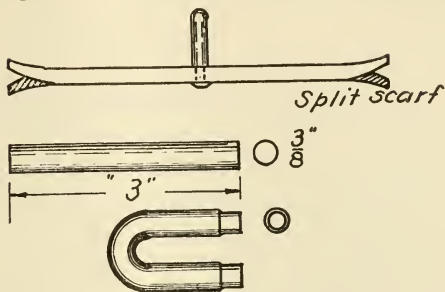

FIG. 210. — IRONS FOR RING AND STAPLE OF CLIP.
When it is riveted in place, the hook must be inside the staple. Punch two holes 1" apart and in the middle of the length, then lay aside until the other two pieces are prepared. (Fig. 210.)
4. The staple is simply tapered at each end down to $\frac{1}{4}$ " diameter, but not to a point, and bent as shown in Fig. 210.